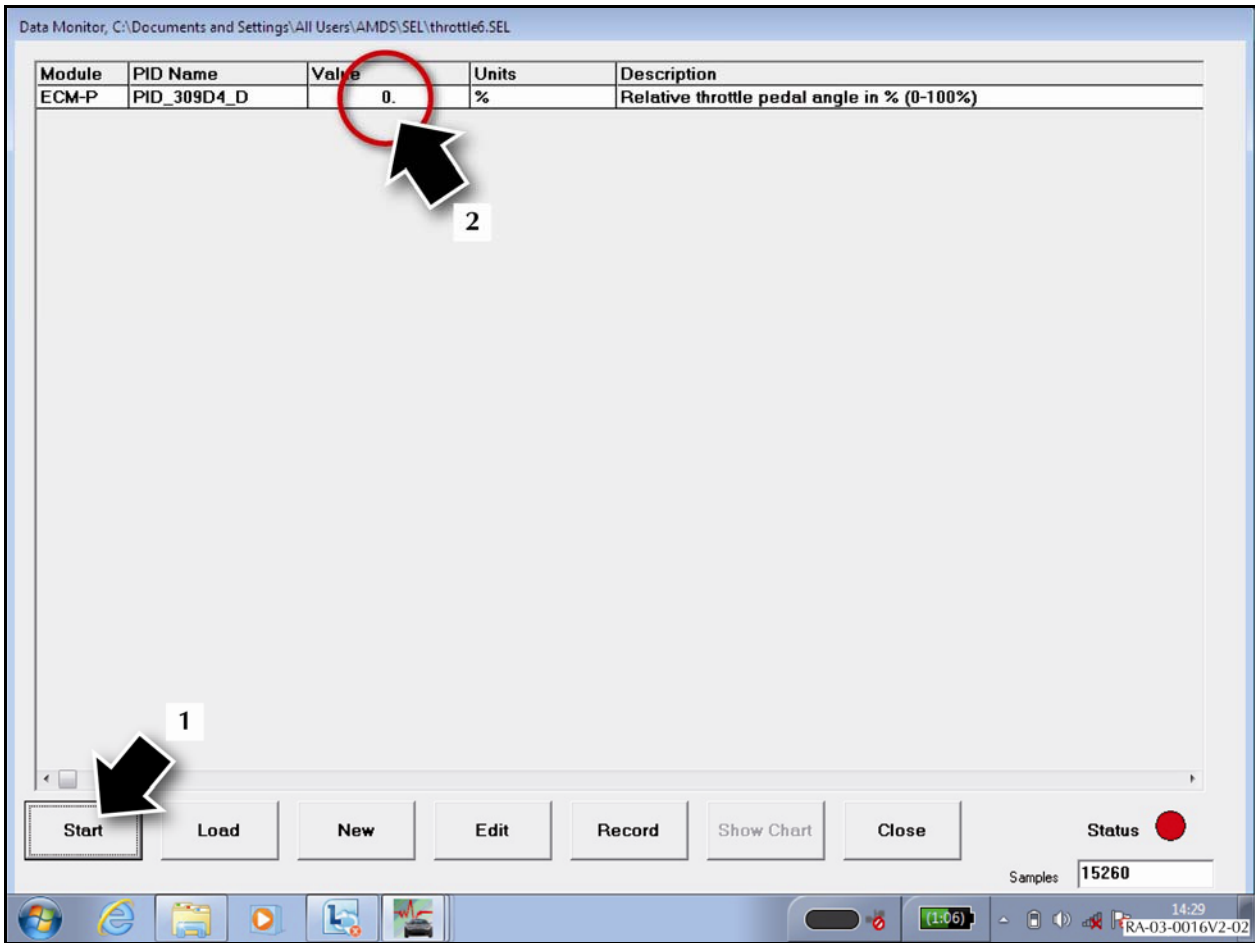

Figure 2
11. The throttle pedal angle screen will be shown (refer to Figure 2).
12. Click on "Start" (1). When you move the throttle pedal, the percentage of the angle of movement will be shown in the "value" cell (2).